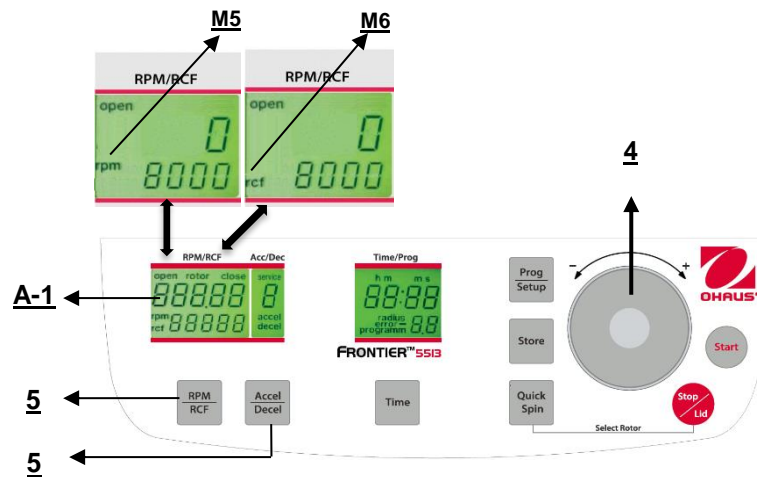

Figure. 16
This pre-selection is activated through the key "RPM/RCF" (5) (refer to figure 16 below). By pressing the key once the word "rpm" (M5) flashes. By pressing the key twice the pre-selection of the centrifugal forces can be selected. Then the flashing word "rcf" (M6) appears. You can set the desired values with the adjusting dial (1). In the display (A-1) the regulated value is shown permanently, before, during and after the run.